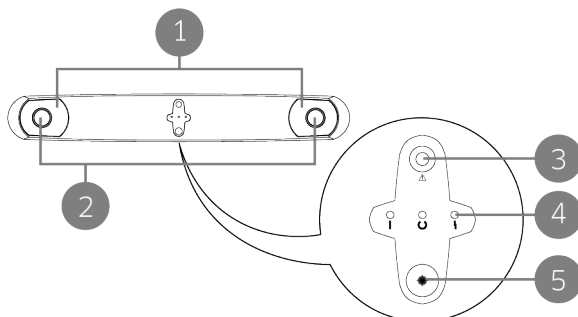

Figure 4 Tracking camera front view
The tracking camera includes a positioning laser that indicates the center of the camera's tracking volume. Use this feature to orient the tracking camera towards the surgical site so all tools and the cranial reference are in the field of view. The laser beam is emitted from an aperture on the front of the tracking camera (item 4 in Figure 4 above).
To use the positioning laser, press and hold the laser activation button on the front of the tracking camera (item 5 in Figure 4 above). The laser remains on only while the button is pressed.